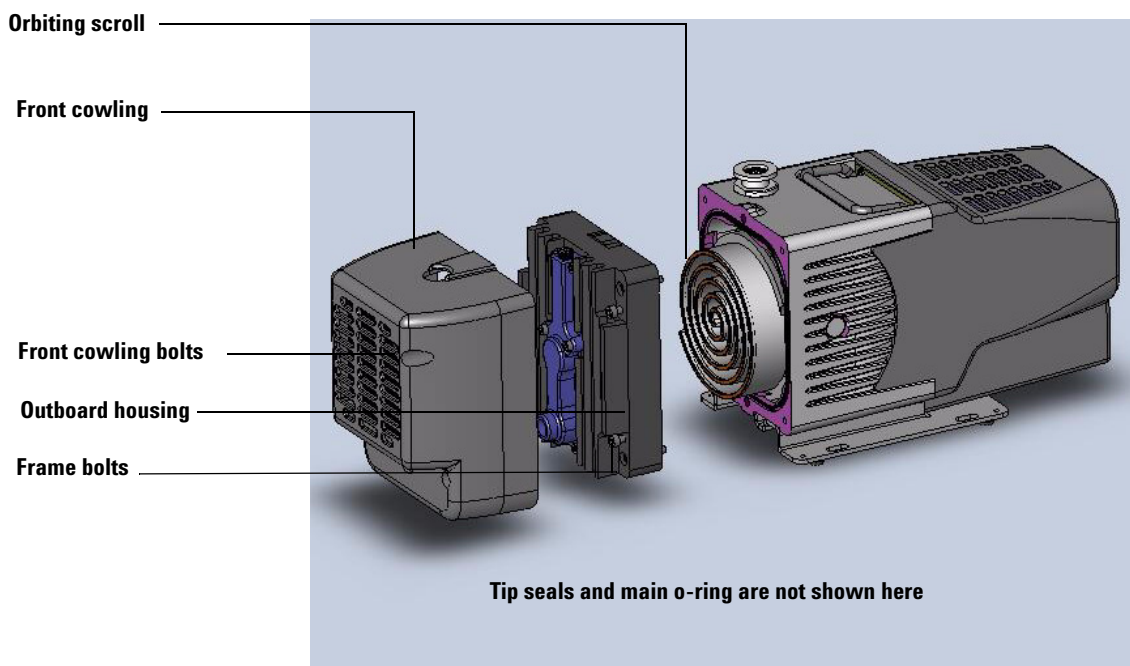

Figure 6 Changing the dry pump tip seal
- 4 Remove the four M5 socket head bolts from the front cowling, disconnect the electrical connector, and set the cowling aside. See Figure 6.
- 9 Install the correct tip seal into the groove of the orbiting scroll, and trim about 3 mm off the seal from the outer end of the groove. See Figure 6.
- 10 Install the correct tip seal into the groove of the outboard housing scroll and trim as in step 9. See Figure 6.
- 12 Replace the outboard housing, ensuring that the tip seal has not fallen out of its groove. See Figure 6.
- 13 Replace the four M5 bolts in the outboard housing. See Figure 6.
- 15 Replace the front cowling and the four M5 bolts that hold it in place. See Figure 6.